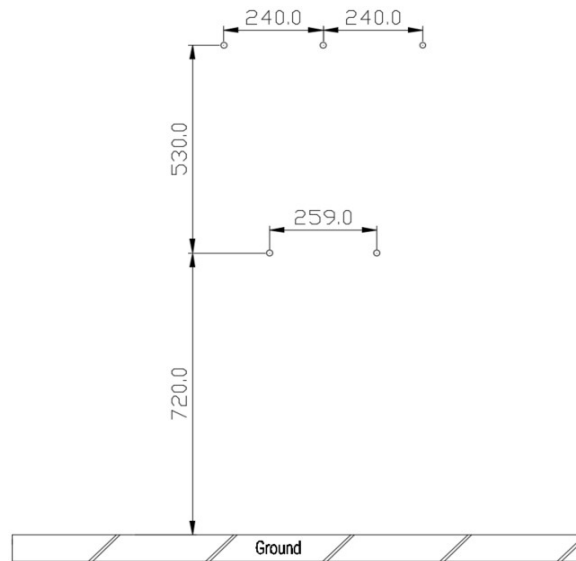

Figure 8 Marking the installation hole position
(1) Select the load-bearing wall where the charger is to be installed, determine the hole position of the wall-mounted charger, and mark the position of the hole with a pencil, as shown in Figure 8.